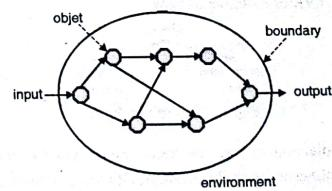

Fig. 1.2.1 : System and its environment
- Fig. 1.2.1 shows system and its environment :